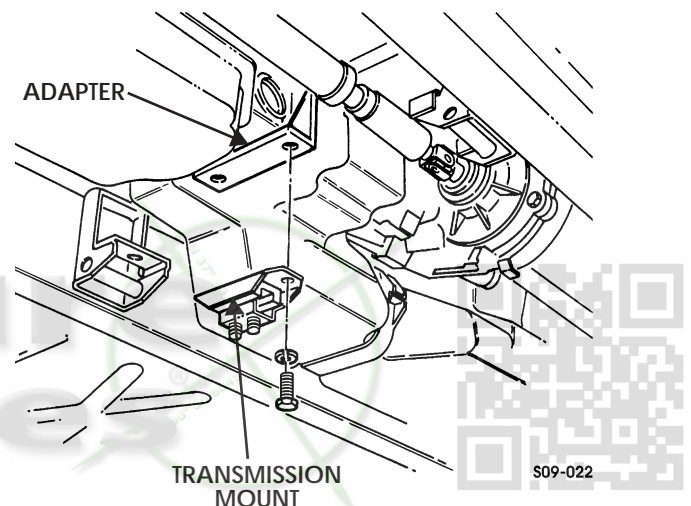

Figure 9-34: Transmission Mount Replacement
2. Remove two capscrews, lockwashers, and transmission mount from adapter. Discard lockwashers (Figure 9-34).